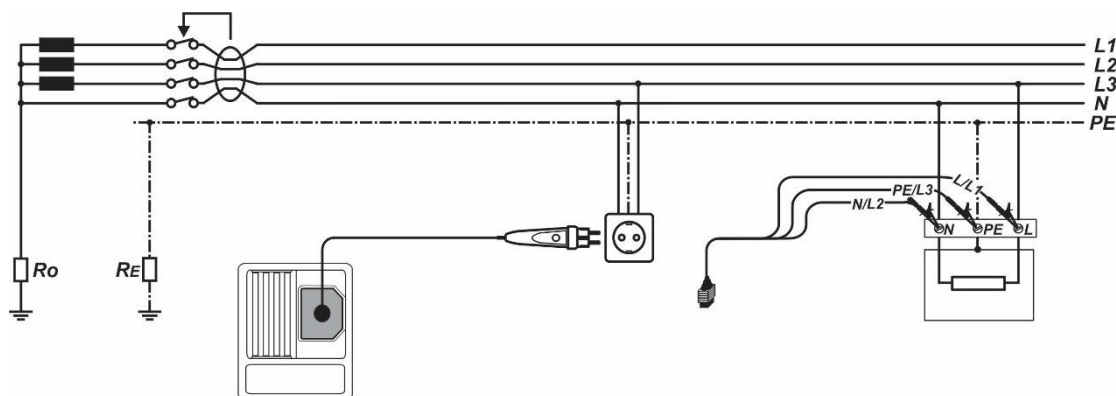

Figure 5.17: Connecting the plug commander and the 3-wire test lead
- ❑ **Connect** test leads to the item to be tested (see Figure 5.17).
- Connect** test leads to the item to be tested (see *Figure 5.17*).
- ❑ **Connect** test leads to the item to be tested (see *Figure 5.17*).
<ul style="list-style-type: none"> <li>❑ Select the RCD function using the function selector switch.</li> <li>❑ Set sub-function to AUTO using UP / DOWN keys.</li> <li>❑ Set test parameters (if necessary).</li> <li>❑ Connect test cable to the instrument.</li> <li>❑ Connect test leads to the item to be tested (see Figure 5.17).</li> <li>❑ Press the TEST key to perform the test.</li> </ul>	Start of test